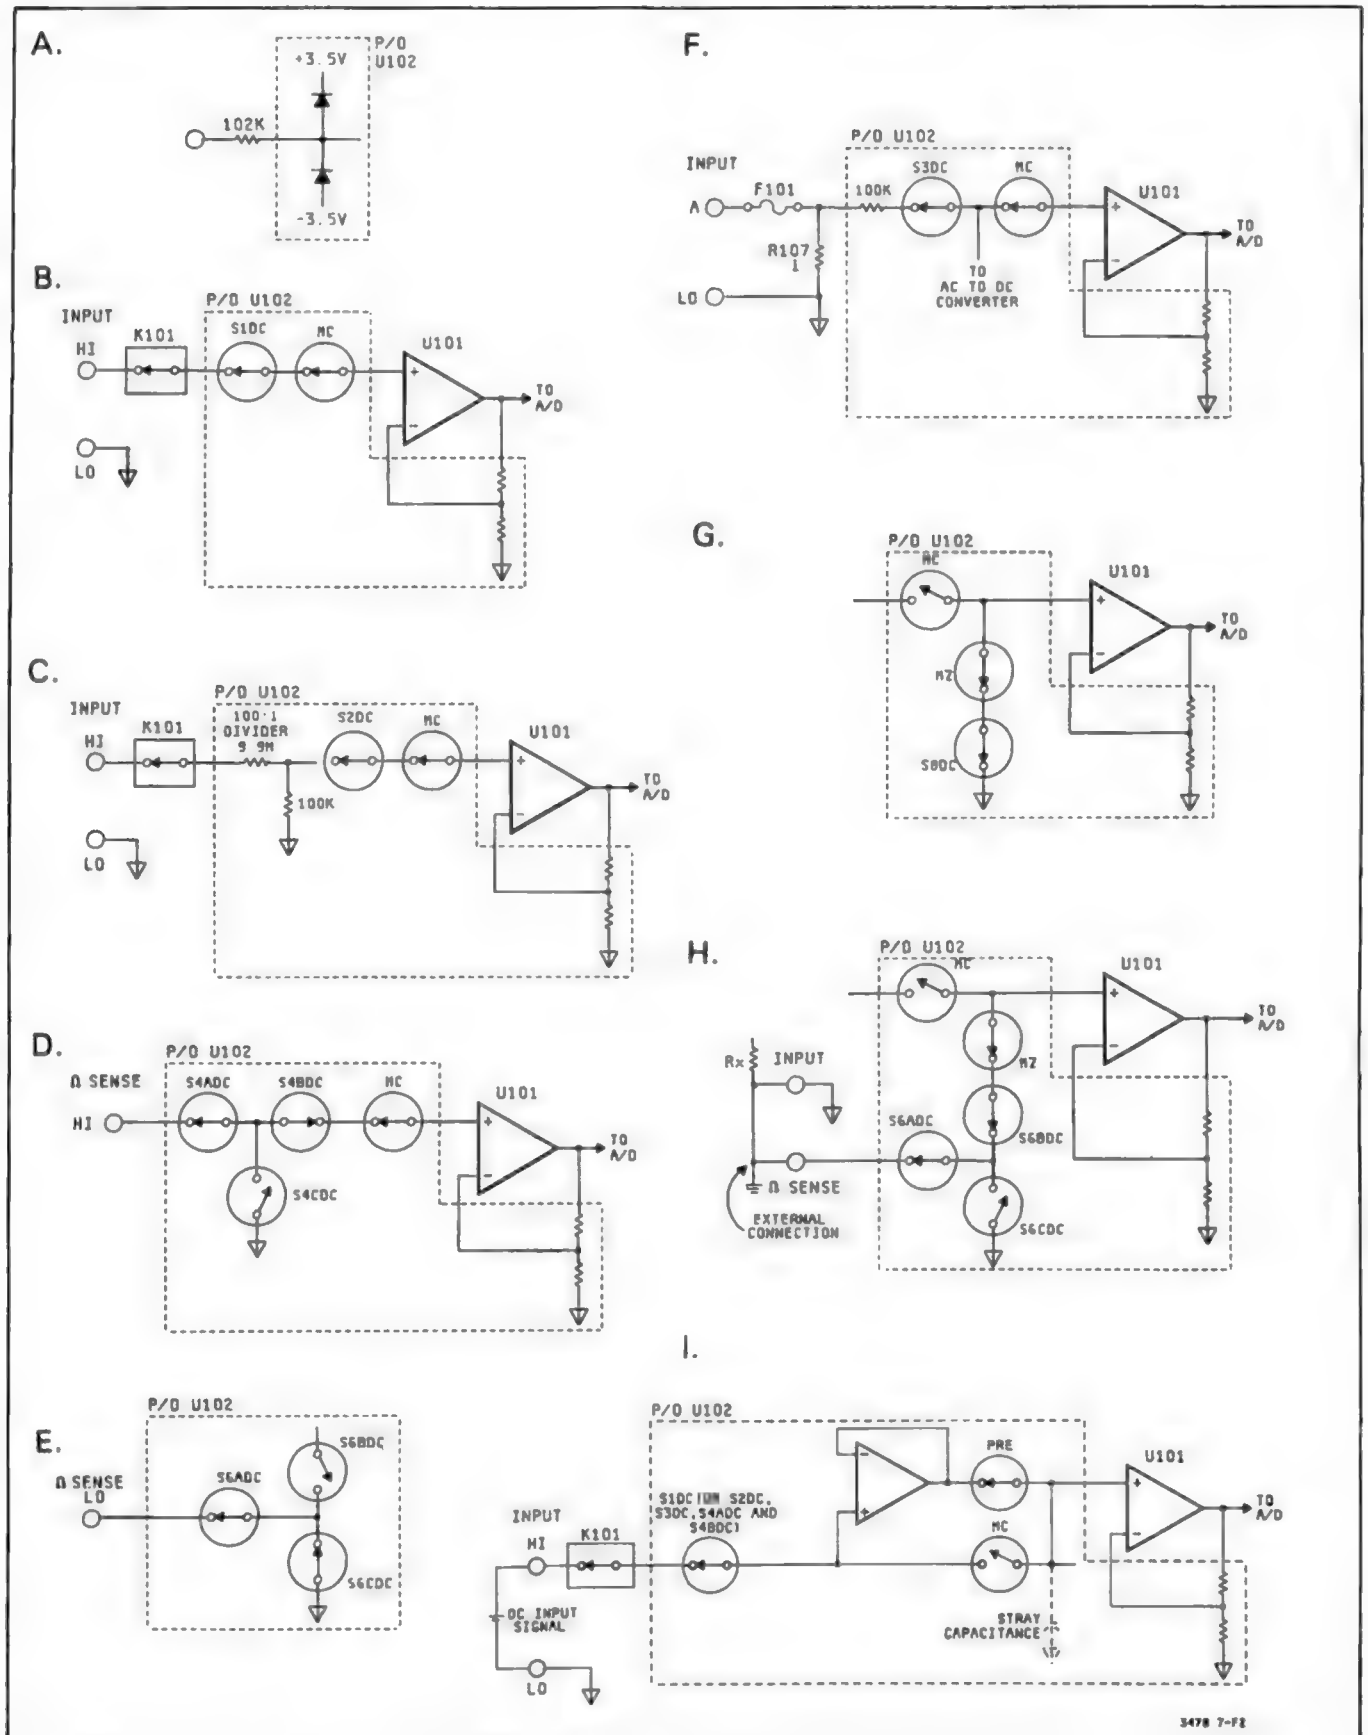

Figure 7-F-2. Simplified Schematic Of The Input Switching Circuitry
b. **Low Voltage Protection.** This circuit consists of diodes connected to the individual input nodes (part of the HI INPUT, LO INPUT, A INPUT Paths, etc.). The diodes on each node are connected (internally in U102) to +3.5V and -3.5V power supplies. If the voltage on a node exceeds either +4.2V or -4.2V, a diode conducts and keeps the level on the node to the $\pm 4.2V$ levels. The difference between the high voltage at the input terminals and the voltage at the input nodes is dropped across the resistors which are in series with the diodes and input terminals (the low pass filter). Figure 7-F-2A shows a typical protection circuit.
7-F-13. **Input Switching.** The Input Switching Circuitry consists mostly of Relay and MOSFET switches, with most FET switches located in U102. The purposes of the switches are to provide five signal paths to the Input Amplifier and to connect the amplifier for a zero measurement (done in the Autozero Function; see paragraph 7-F-14). The switches are controlled by circuits in U102 which receive their control information from the A/D Controller. The following explains the various input paths. Refer to Figure 7-F-2 and Schematic 1 for the explanation.
a. **Low Voltage Range Input Path (Figure 7-F-2B).** The path consists of K101, R103, R104, R110, and S1DC (S1DC is in U102). The purpose of the path is to connect the HI INPUT Terminal (high input voltage) to the DC/Ohms Input Amplifier. The path is used only in the 30mV through 3V dc volts Ranges and all Ohms Ranges.
b. **High Voltage Range Input Path (Figure 7-F-2C).** The path consists of R110, K102, S2DC (in 102), and a 100:1 divider (9.9M ohm and 100K ohm resistors, RD99 and RD98, in U102). The purpose of the path is to attenuate input voltages by a factor of 100 and to connect the attenuated voltage to the DC/Ohms Input Amplifier. The path is used only in the 30V and 300V dc volts Ranges.
c. **Ohms High Sense Path (Figure 7-F-2D).** This path consists of R105, R106, and S4ADC and S4BDC (S4ADC and S4BDC are in U102). The path connects the HI OHMS SENSE Terminal (high ohms input) to the DC/Ohms Input Amplifier, only when the 3478A is in the 4-Wire Ohms Function. Switch S4CDC (which is also part of the path) is used to connect the junction of S4ADC and S4BDC to ground. Switch S4CDC is closed in all functions except the 4-Wire Ohms Function and shunts any possible voltage on the S4ADC and S4BDC junction to ground.
d. **Ohms Low Sense Path (Figure 7-F-2E).** This path consists of R101, R102, and S6ADC and S6CDC (S6ADC and S6CDC are in U102). The path is used to connect the LO OHMS SENSE Input Terminal (low ohms input) to ground (LO INPUT Terminal), when the 3478A is in the 4-Wire Ohms Function. In the 2-Wire Ohms Function, the low ohms input is the LO INPUT Terminal (which is connected to ground).
e. **Current Input Path (Figure 7-F-2F).** This path includes R107 and S3DC (in U102). The voltage drop across R107 (which is generated by the current being measured) is connected through S3DC to the DC/Ohms Input Amplifier. This path is used only in the DC Current Function.
a. **Autozero (in the DC Volts, DC Current, and 2-Wire Ohms Functions).** In the DC Volts, DC Current, and 2-Wire Ohms Functions, the zero measurement is made with switch MC (measure customer) open, and switch MZ (measure zero) and S8DC closed (see Figure 7-F-2G). Switch S8DC and MZ connects the DC/Ohms Input Amplifier to ground through a 102K ohm resistor. After the zero measurement is made, switch S8DC and MZ opens, and switch MC closes for the input measurement. (Note: MOSFET switches MC, MZ, and S8DC are in U102.)